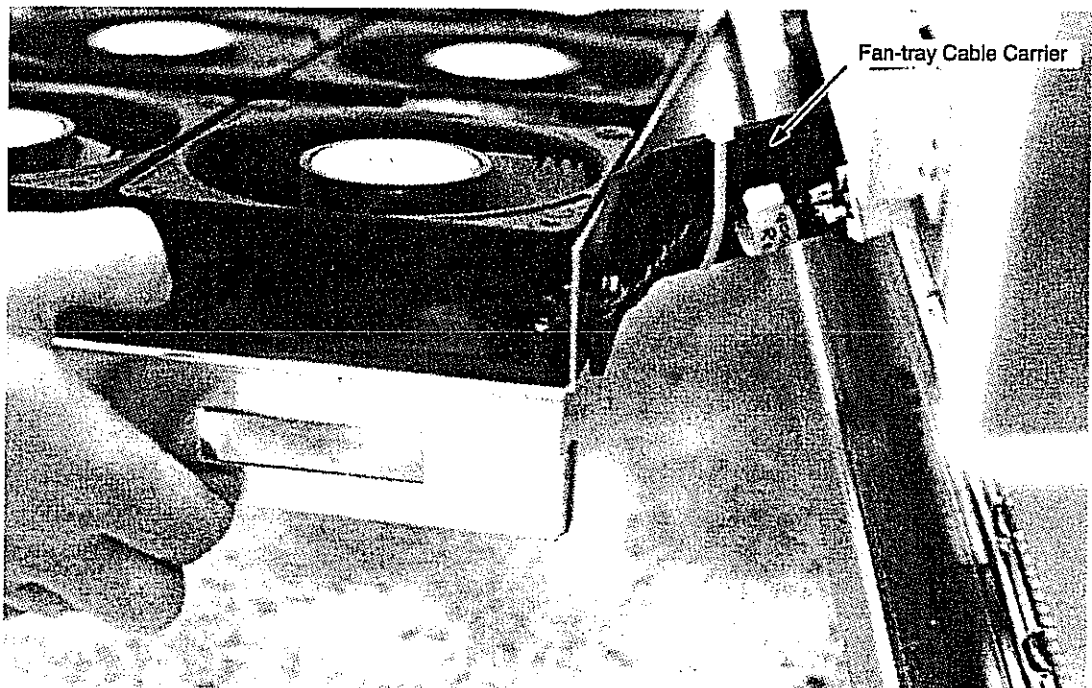

Figure 7-34. Lower Fan-tray Cable Carrier
6. When the left lower fan tray is just clear of the frame rest, support the tray while you disconnect the power and sense plugs. Refer to Figure 7-34.
7. Remove the screw for the cable carrier from the fan tray. Refer to Figure 7-34. The cable ties may have to be clipped to allow cable removal. The tray should now be clear of the frame.